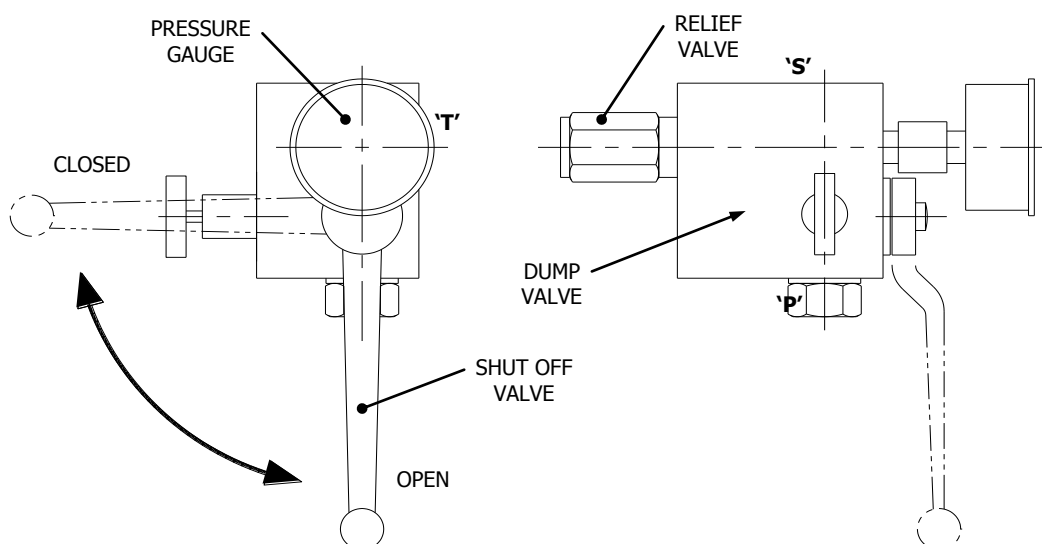

Figure 4.16: Accumulator Safety Block
- Dump all of the oil in the accumulator to the reservoir, by slowly opening the dump valve on the safety block. Refer to figure 4.16: Accumulator Safety Block.
- With zero hydraulic pressure in the accumulator, isolate from the rest of the system by rotating the shut off valve to 'OFF' (closed). Refer to figure 4.16: Accumulator Safety Block.
- Dump all of the oil in the accumulators to the reservoir, by slowly opening the dump valve on the safety block. Refer to figure 4.16: Accumulator Safety Block.
- Drain oil from accumulators by opening the dump valve (turn counter-clockwise) on the safety block. Refer to figure 4.16: Accumulator Safety Block.